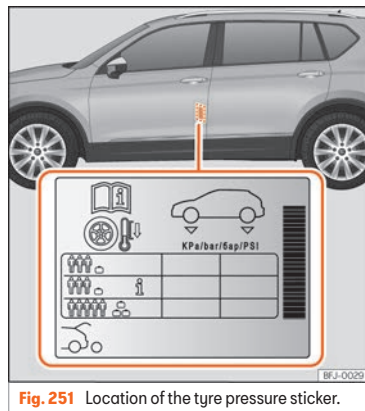

Fig. 251 Location of the tyre pressure sticker.
- Adjust tyre pressure to the load being carried by the vehicle » **Fig. 251**.
The tyre inflation pressures are listed on a sticker on the rear of the front left door frame »» Fig. 251.
Depending on the vehicle, tyre pressure can be adjusted to medium load to improve driving comfort (tyre pressure **i**) »» Fig. 251). When driving with comfort tyre pressure fuel consumption may increase slightly.
The tyre pressure must be adjusted according to the load the vehicle is carrying. If the vehicle is going to carry the maximum load, the tyre pressure should be increased to the maximum value indicated on the sticker »» Fig. 251.
In the case of a minimised temporary spare wheel (**j**), inflate to a pressure of 4.2 bar as indicated on the tyre pressure label »» Fig. 251.
ded tyre pressure is indicated on the label »» Fig. 251.
- **When the tyres are cold, tyre pressure should be that indicated on the label »» Fig. 251.**